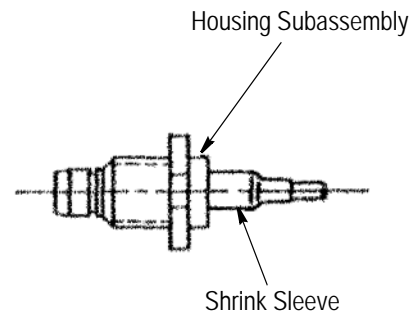

Figure 5
1. Position the shrink sleeve over the outer sleeve as shown in Figure 5.